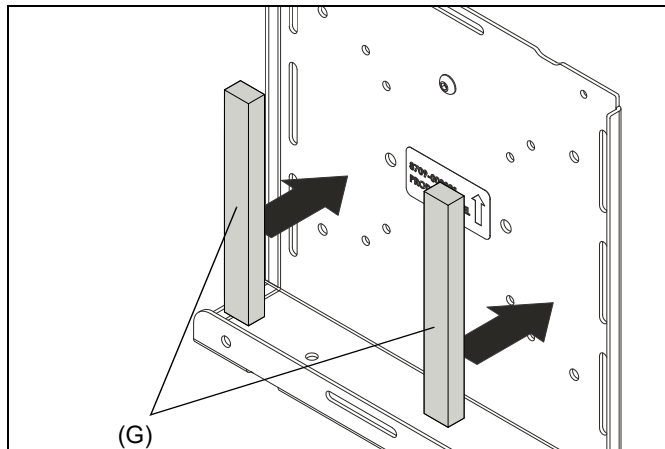

Figure 6
1. (Optional) Attach up to four adhesive-backed pads (G) to inside of thin client bracket(s) (E) as desired. (See Figure 6)